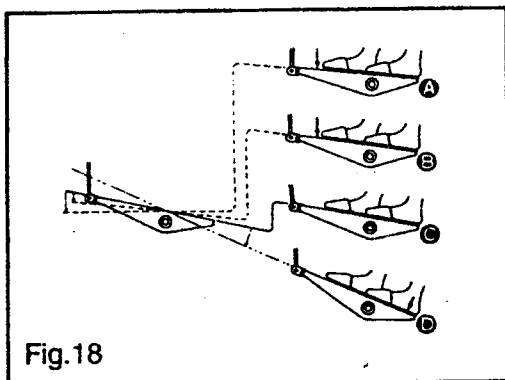

Fig.18
- 2) You can adjust the presser foot lift up to 13 mm using knee lifter adjust screw ①. (The max. lift should be 9 mm for the A type.)
- 3) When you have adjusted the presser foot lift to over 10 mm, be sure that the bottom end of needle bar ② in its lowest position does not hit presser foot ③.
14. PEDAL OPERATION (Fig.18)